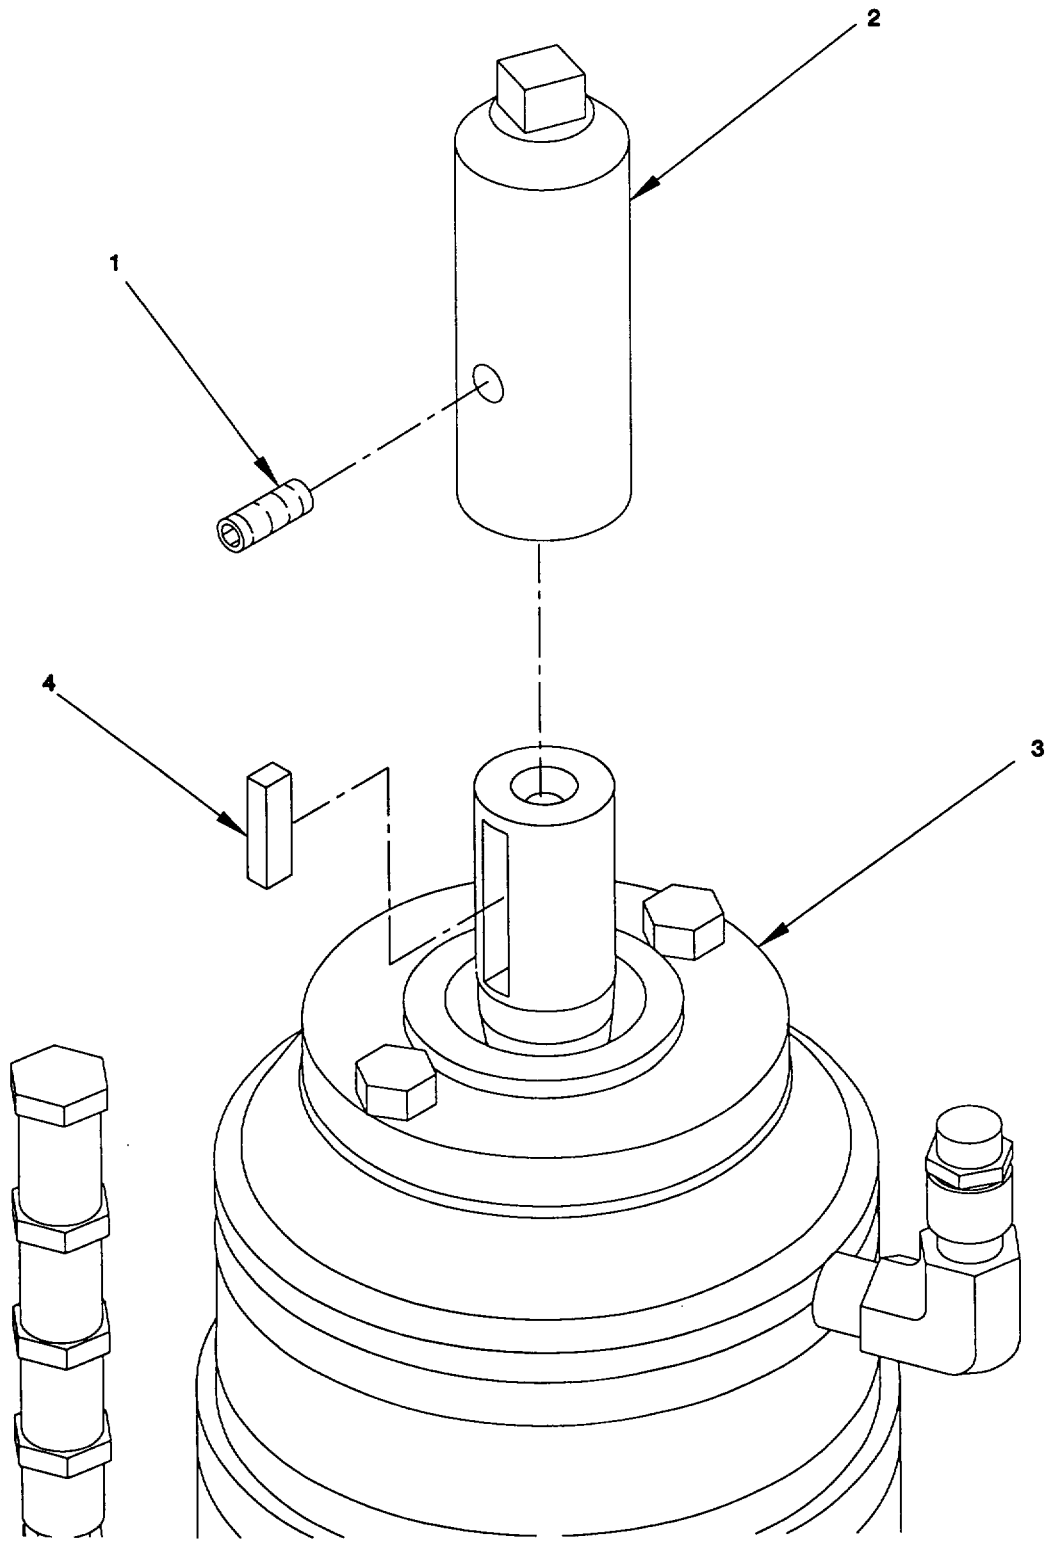

Figure 2-84. Emergency Steering Adapter, Remove/Install.
a. Remove. (figure 2-84)
(1) Loosen setscrew (1) and slide adapter (2) from planetary gear reducer (3). Collect key (4).
b. Install. (figure 2-84)
(1) Position key (4) into planetary gear reducer shaft (3).
(2) Slide adapter (2) onto shaft and secure with setscrew (1).